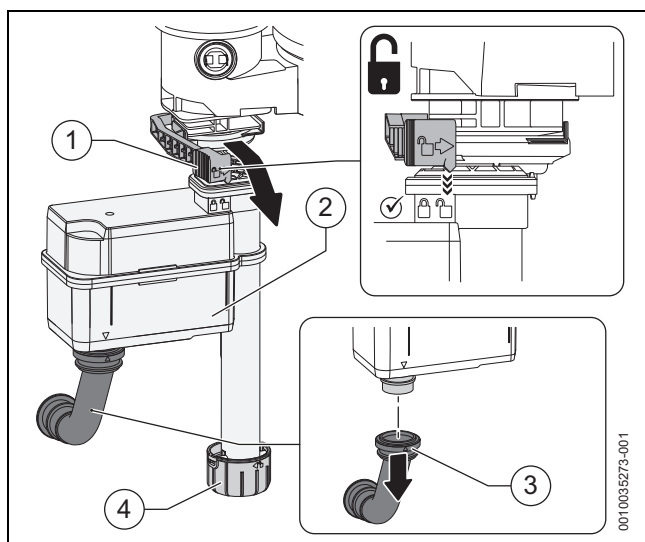

Fig. 81 Removing the siphon
Refer to figure 81.
- ▶ Remove the dirt trap [4] (→ figure 81) at the bottom and clean it.